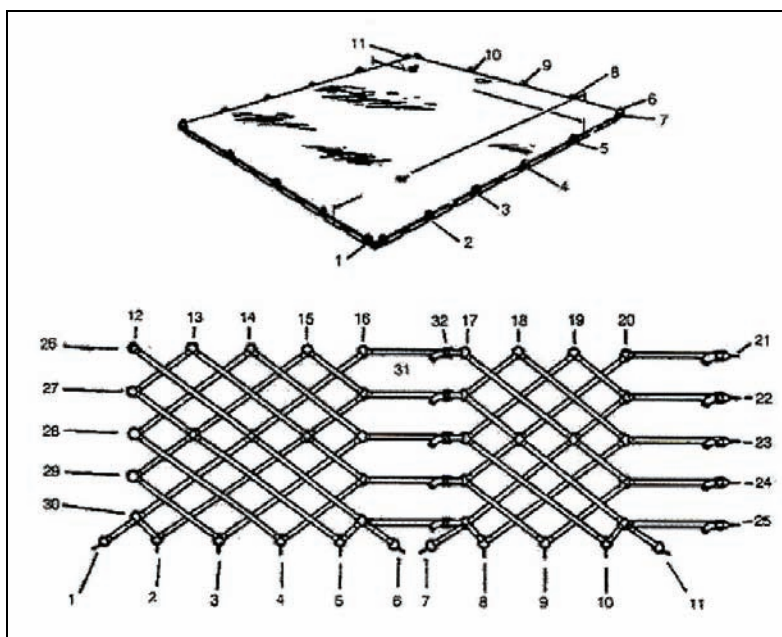
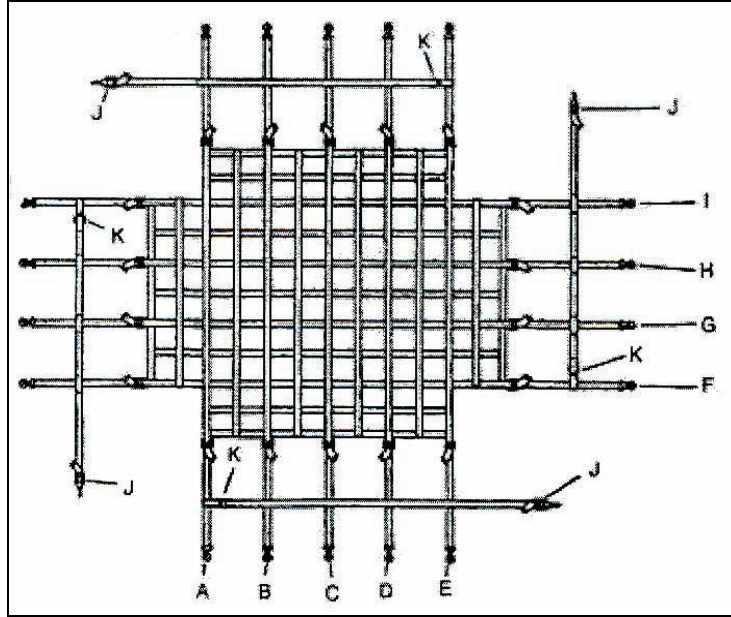

Figure 3-107. Laying Out the Two Side Nets
Figure 3-108. Laying Out the Top Net
- d. Direct personnel to lay out the two side nets (see Figure 3-107) and the top net (see Figure 3-108) as a set, then fold the nets and secure the three nets together.